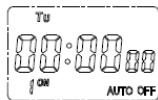

Figure 9
6.2.3.1 After finish operation 6.2.2, press “MD” to set the timing parameters, see Figure 9.